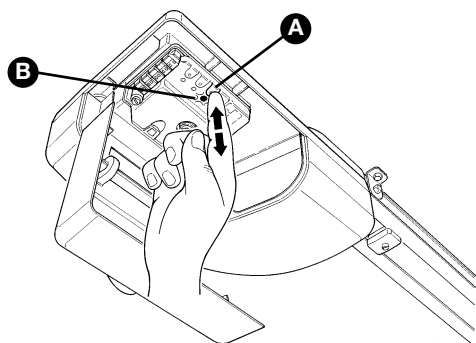

Figure 72
- 2 Press key P3 **[A]** on the control unit and hold it down for at least three seconds, then release the key (Figure 72).